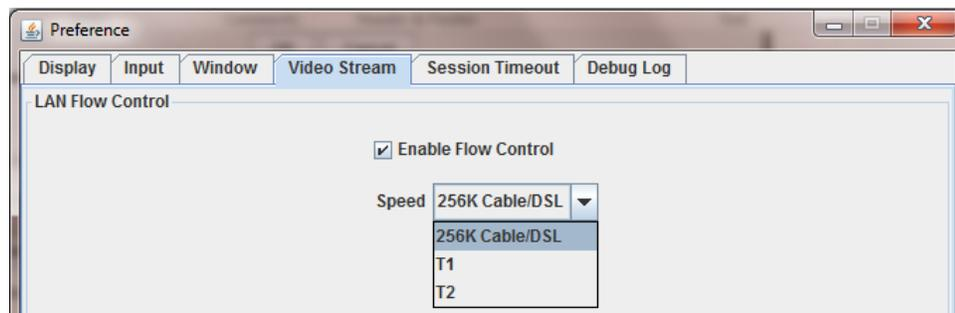

Figure 28. Remote Console Video Stream Settings
- **Video Stream** (Figure 28) – Enable flow control by specifying a speed of T1, T2, or 256K Cable/DSL.